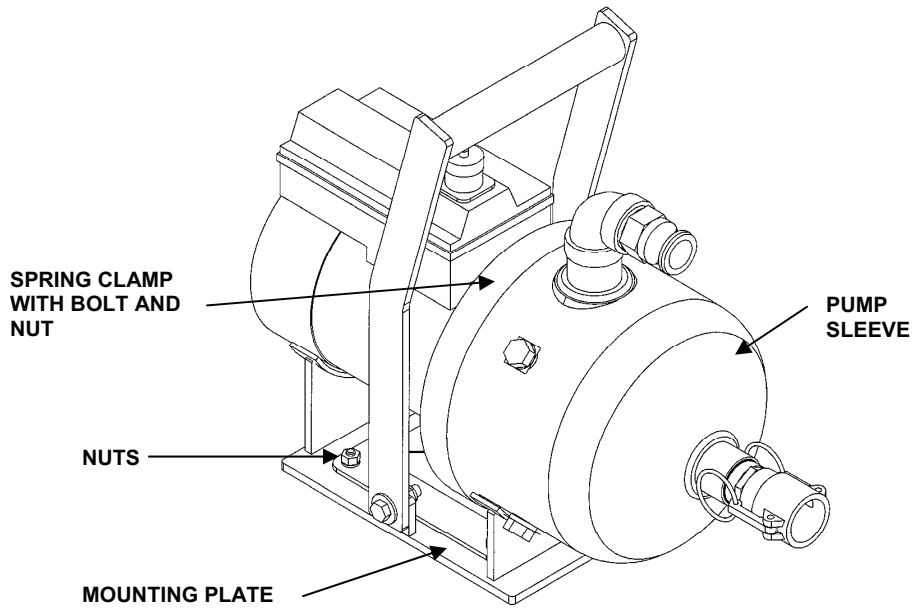

Figure 1. Service Pump.
1. Disconnect suction and discharge hoses from service pump adapter and coupling. Remove electrical cable from terminal box. See Figure 1.